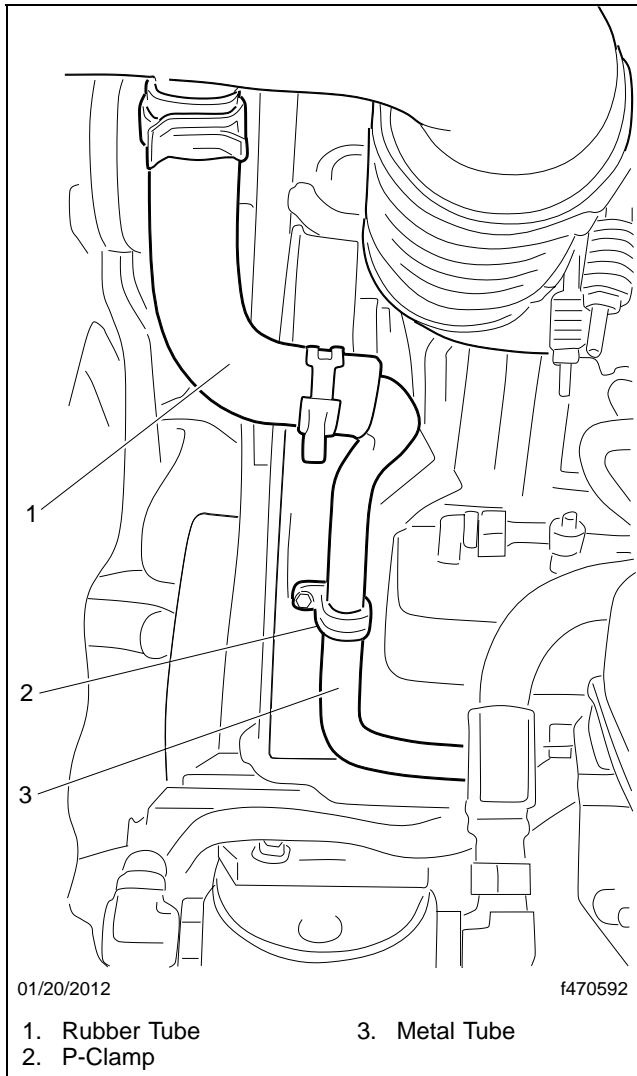

Fig. 7, Intake Tube Installation
7. Adjust the metal compressor tube to get it to fit without rubbing. You may need to trim the upper rubber hose to achieve this. See **Fig. 7**.